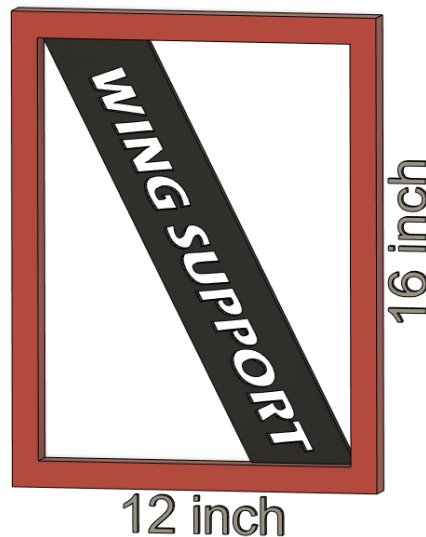

Figure 12
- C. The size of each standoff and endplate may not exceed 12x16 inches dimensionally in size per piece. Refer to Figure 12.